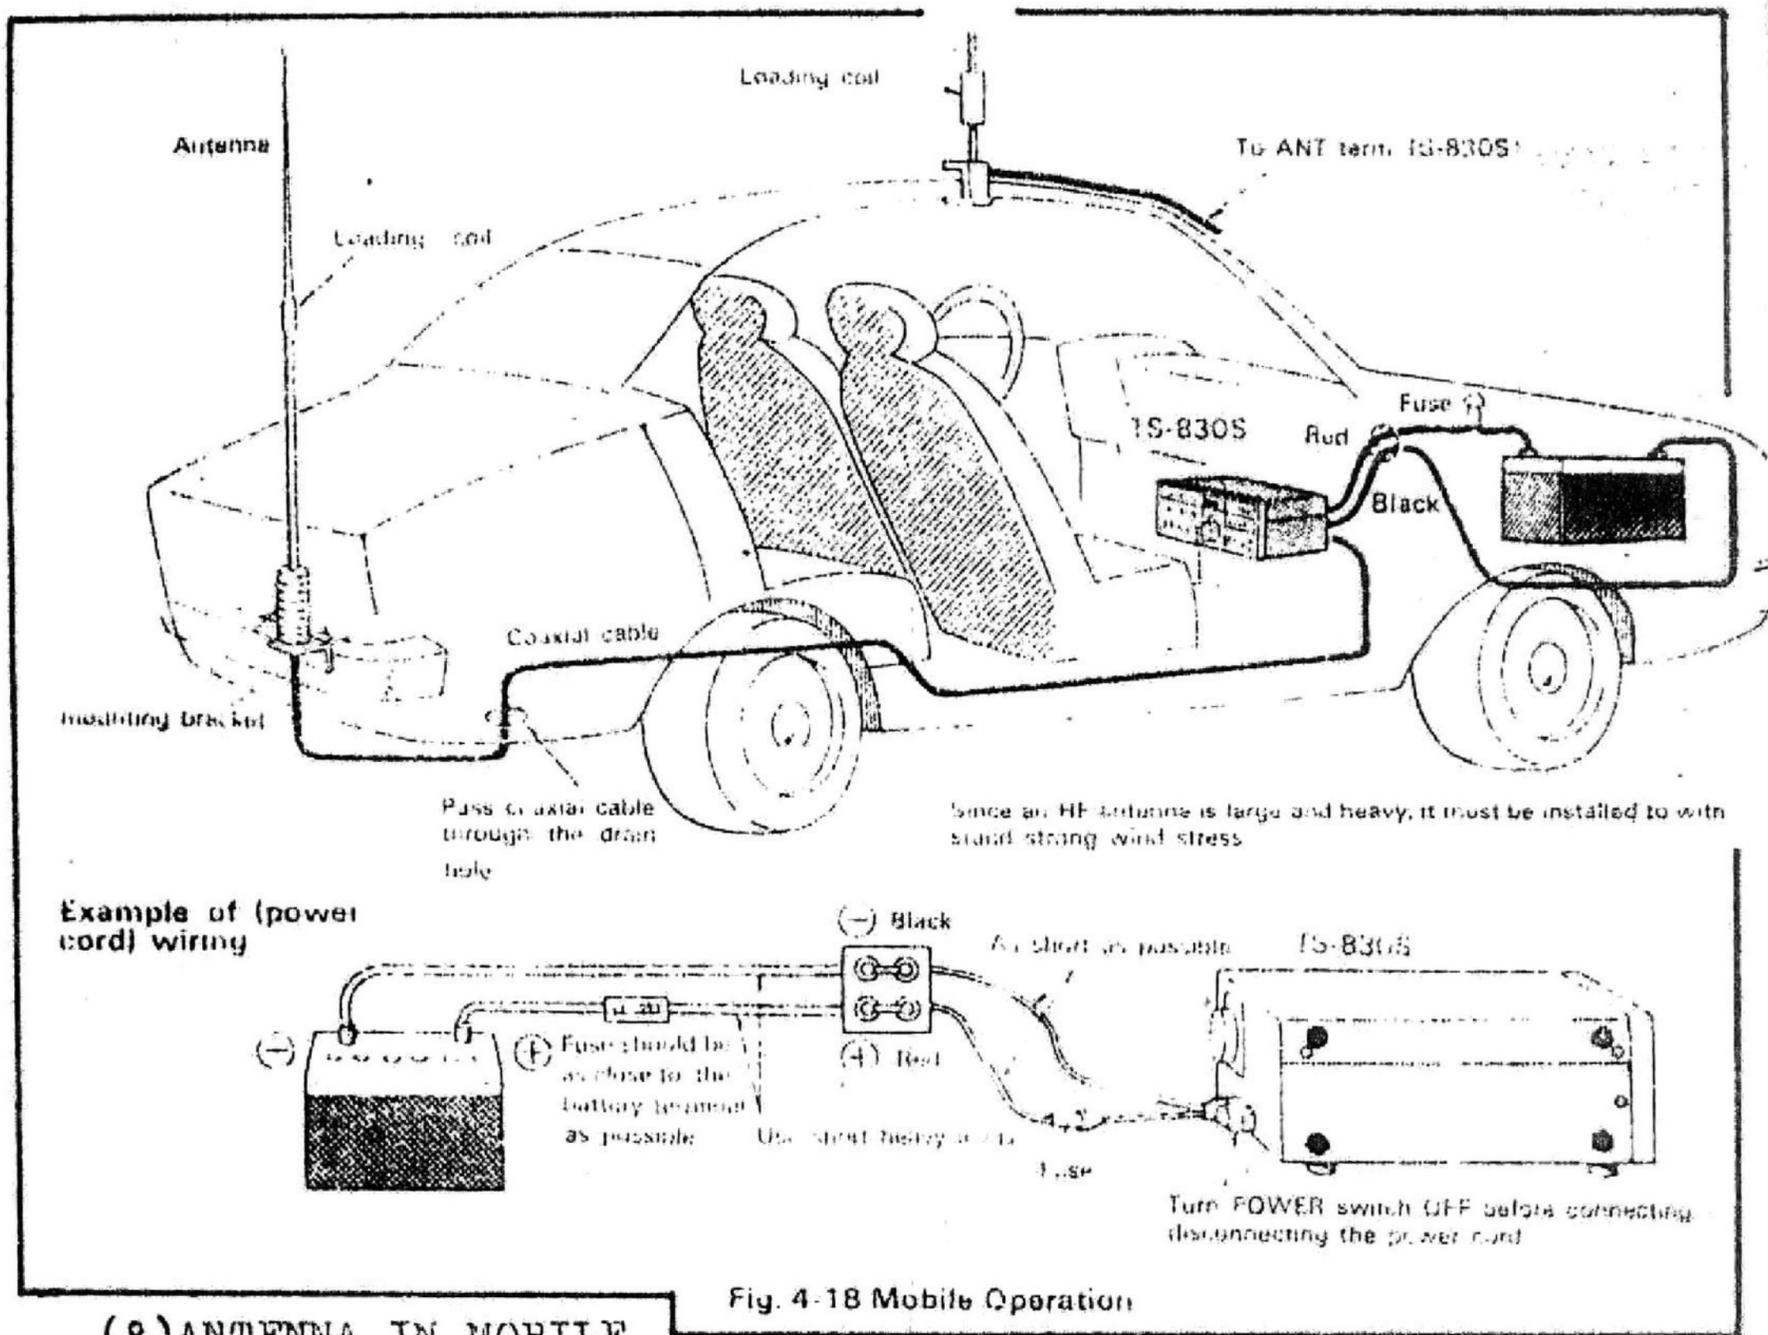

Fig. 4-18 Mobile Operation
(II) COME COLLEGARE IL CAVO COASSIALE (Fig. 4-18)